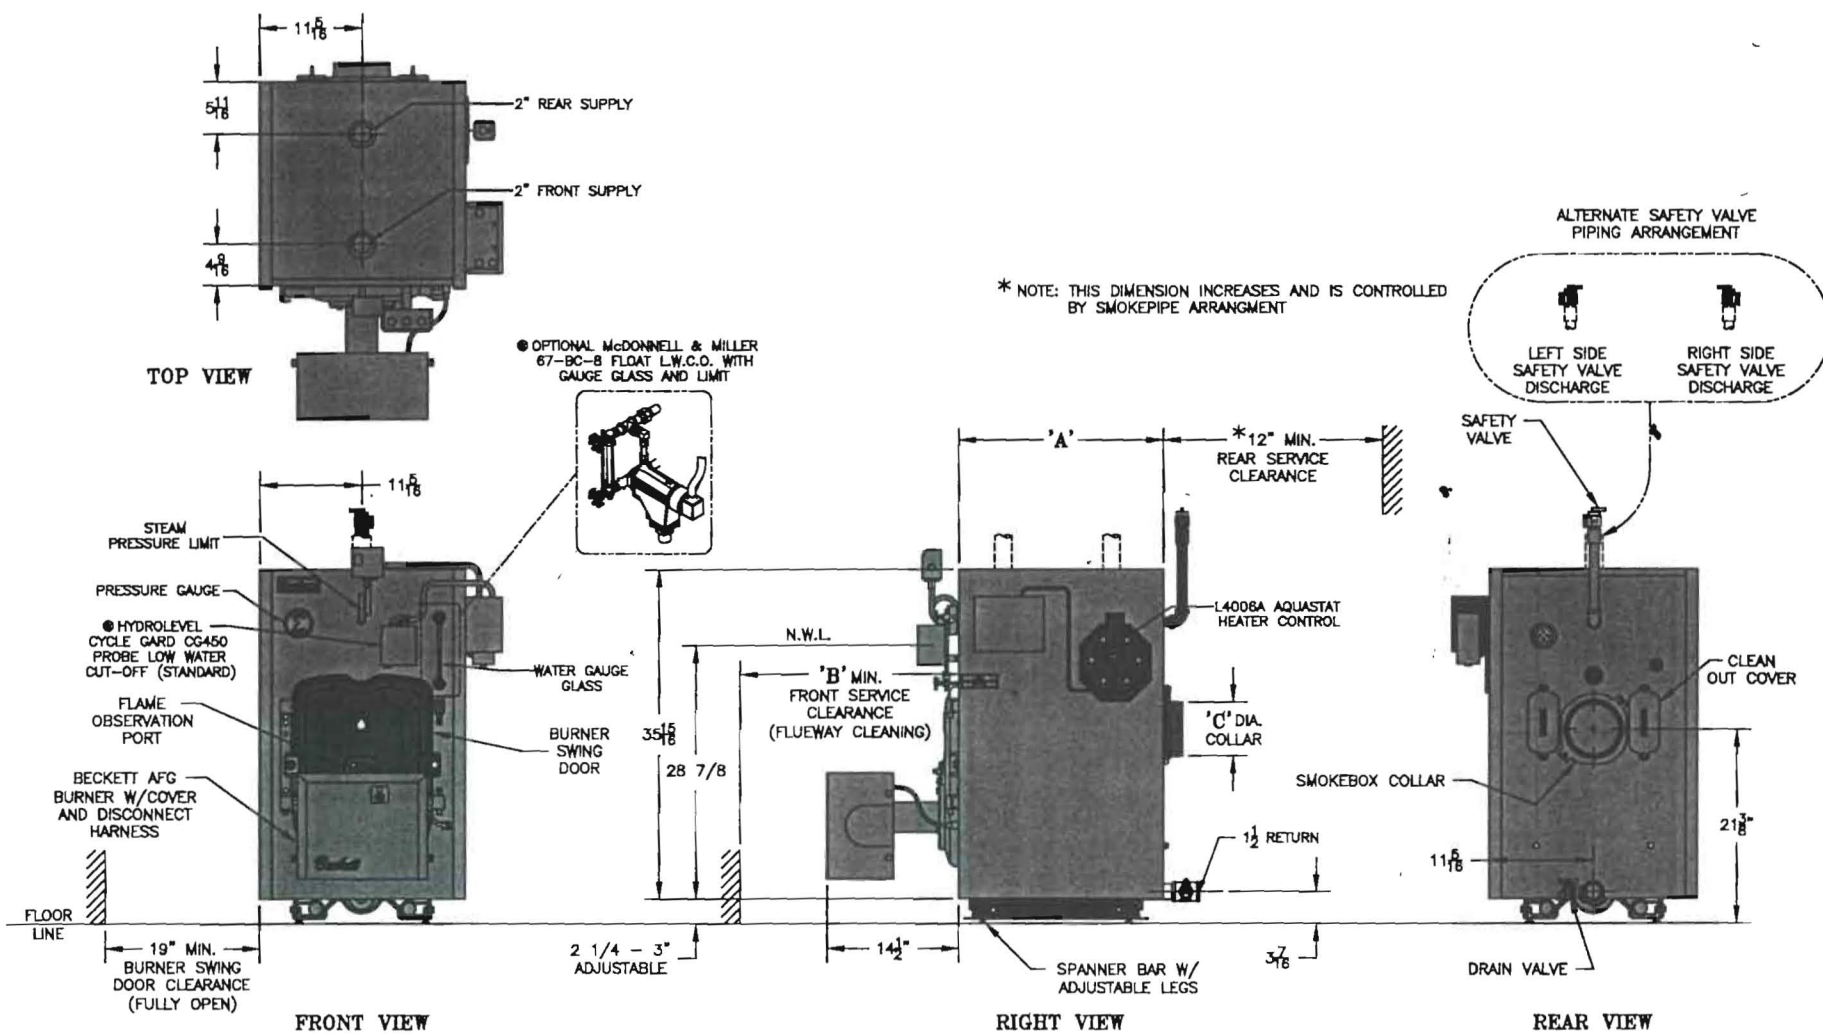

Figure 1: MST288 Thru MST629 Steam Boiler with and without Tankless Heater
2. Any claims for damage or shortage in shipment must be filed immediately against the carrier by the consignee. No claims for variances from, or shortage in orders, will be allowed by the manufacturer unless presented within sixty (60) days after receipt of goods.
B. **LOCATE BOILER** in front of final position before removing crate. See Figure 1.
TABLE 1A: DIMENSIONAL DATA (SEE FIGURE 1)